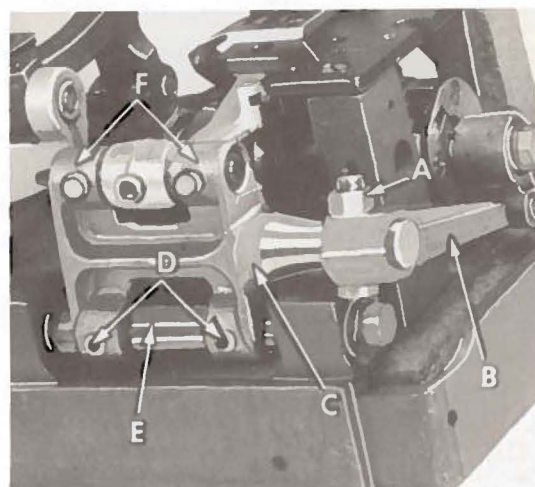

Fig. 7
The feed dog should be set for maximum travel and equal clearance on all sides in the throat plate. NOTE: See 'CHANGING STITCH LENGTH'. With maximum feed travel set, it may be necessary to centralize feed dog motion to obtain equal clearance in the front and rear of throat plate. If required, loosen nut (A, Fig. 7) which clamps the feed rocker arm (B) to the feed rocker (C) and move the feed rocker forward or rearward as needed and retighten nut. Equal side clearance can be obtained by loosening screws (D) which hold the feed rocker (C) onto the feed rocker shaft (E), move the feed rocker to desired position and retighten screws. Make sure the feed rocker arm (B) does not bind after making this adjustment.
Machines having needle bearings in feed rocker at locations (F, Fig. 7) may require repacking after years of service. Bearings should be cleaned and re-packed with Union Special Corporation grease No. 28604 P.